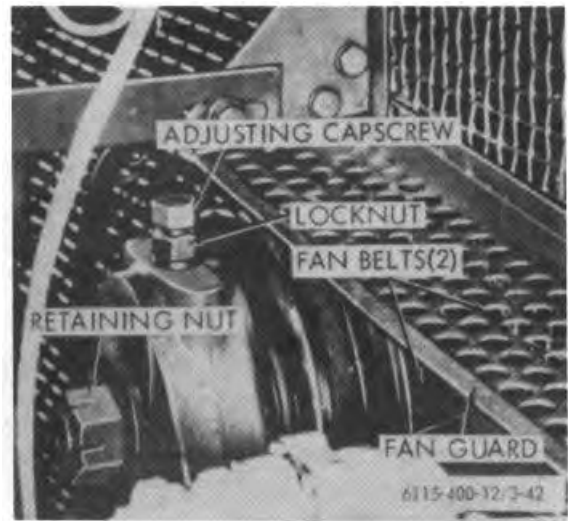

Figure 3-42. Fan belt, removal and installation.
- (1) Loosen the spindle clamping retaining nut at rear of fan hub mounting bracket and loosen locknut securing adjusting capscrew that protrudes through the fan hub spindle (fig. 3-42).
- (2) Turn capscrew until enough slack is obtained to facilitate removal of the fan belts, then remove belts.